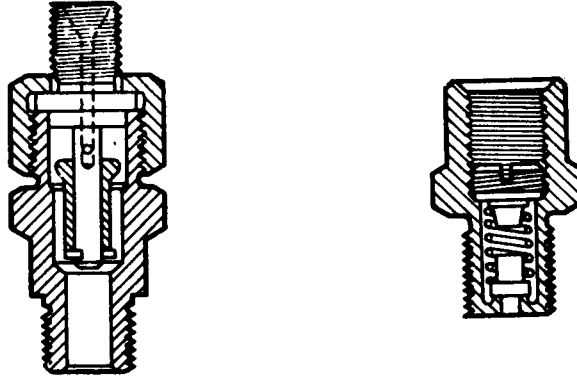

Fig. 3. (left) Gravity vent valve and (right) pressure relief valve.
These components are shown diagrammatically in Fig. 3 and either will replace the venting plug normally fitted to the venting orifice (13).